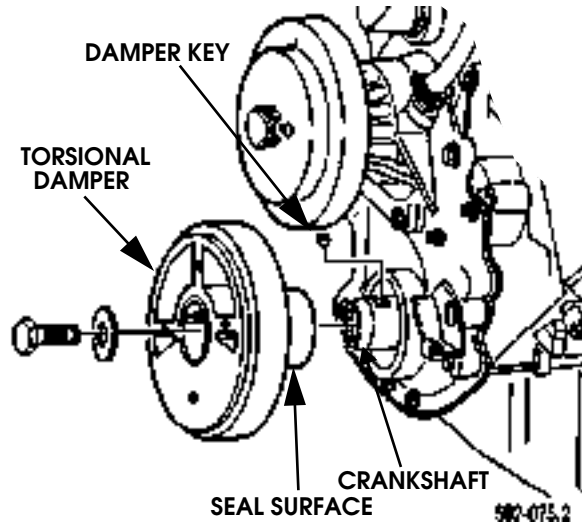

Figure 2-186: Torsional Damper Installation
1. Install damper key in crankshaft (Figure 2-186).